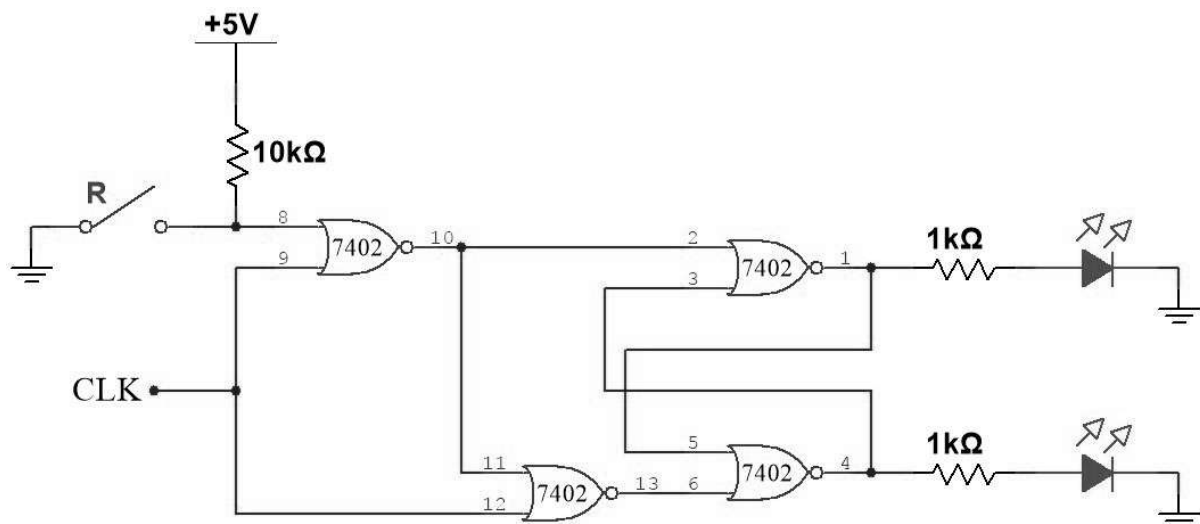

Figure 3.14. Clocked D Flip-flop
- Connect the clocked D latch of figure 3.14!